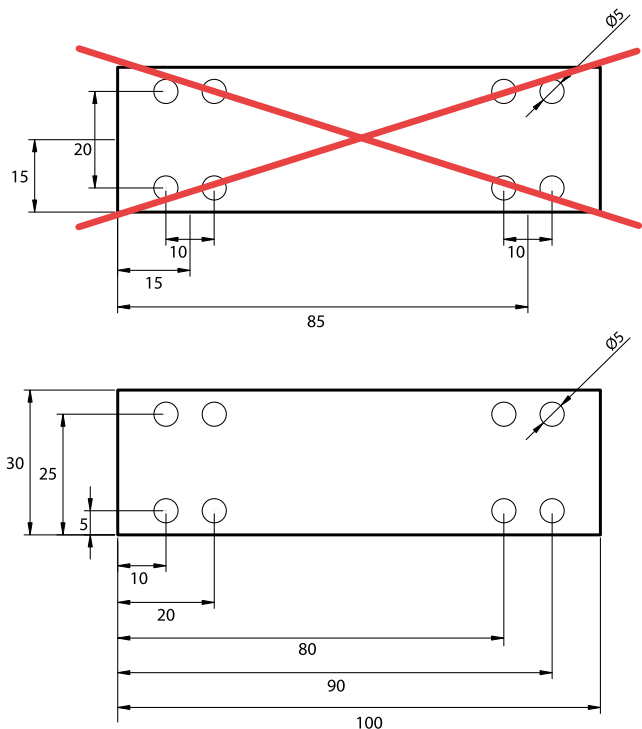

Fig. 1.3
- If further calculations have to be made during production to determine certain dimensions, errors could creep in. Therefore, take the fabrication of the product into account during the dimensioning phase. Choose absolute dimensions for drilling and welding. (Fig. 1.3)